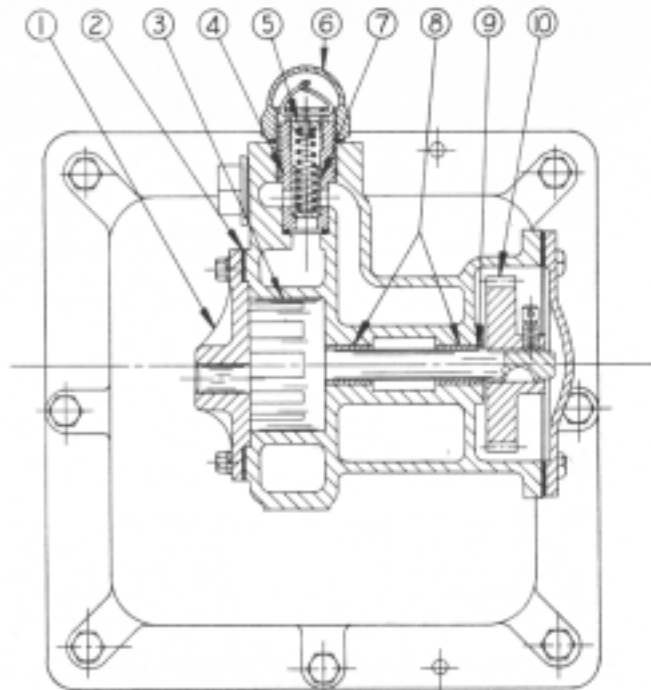

FIG. T-1
The lubricating oil pump, illustrated in Fig. T-1, is of the internal gear type. It is mounted on one of the centerframe doors, on the control side of the engine, and is driven from a gear on the camshaft. Referring to Fig. T-1, the end clearance between pump rotor (3) and the housing should be from .001" to .003", and is determined by the thickness of paper gaskets (2) under cover (1). If the clearance is
The spring loaded lubricating oil regulating valve (7) is built into the pump housing, as illustrated in Fig. T-1. The entire assembly is contained in cage (4), which is screwed into the housing against a copper gasket. It is sealed by cap (6) screwed onto the projecting end of the cage against a second copper gasket. The valve is adjustable by means of spring retaining plug (5), which may be screwed in or out of the cage. The adjustment is locked by a wire through the cage and plug as shown, and should be maintained at 40 to 50 lbs. per square inch.